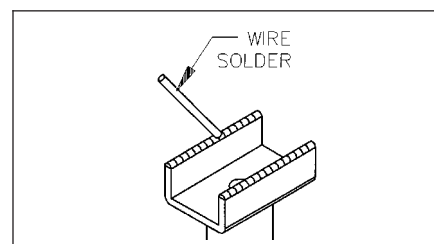

Figure 2 Tin Tip
6. Tin bottom and inside edges of tip with solder. (See Figure 2.)